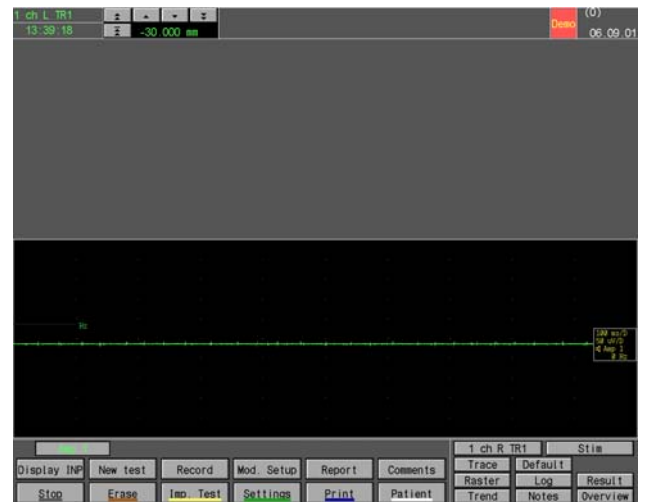

Figure 28 The Trace Window in lower-half Position
- Then select and click the "lower-half" zoom feature button, which is situated in the button level of the second column to the left, see Figure 28 below: